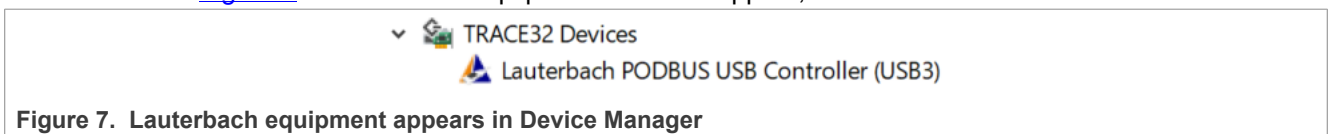

Figure 7. Lauterbach equipment appears in Device Manager
2. Connect the μ Trace for Cortex-M debugger to the PC through the USB cable. Power on the debugger with a 5 V power adapter. Open the Device Manager on PC. Lauterbach equipment appears in Trace32 devices, as shown in Figure 7. If Lauterbach equipment does not appear, check the connection.